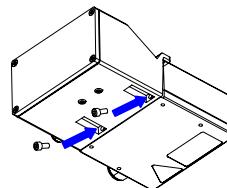

Figure 5
- 5) Turn the assembly over, insert and tighten the two short fixing screws (see Figure 5).